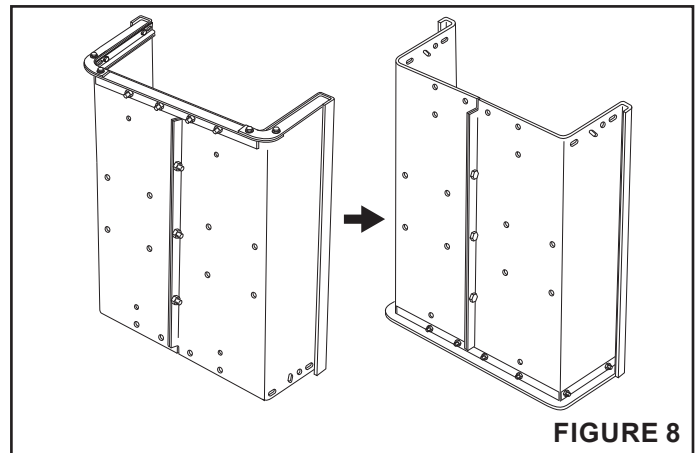

FIGURE 8
STEP 8: (SEE FIGURE 8)
- Position the cart bed with the rear of the cart facing towards the ground as shown in figure 8.